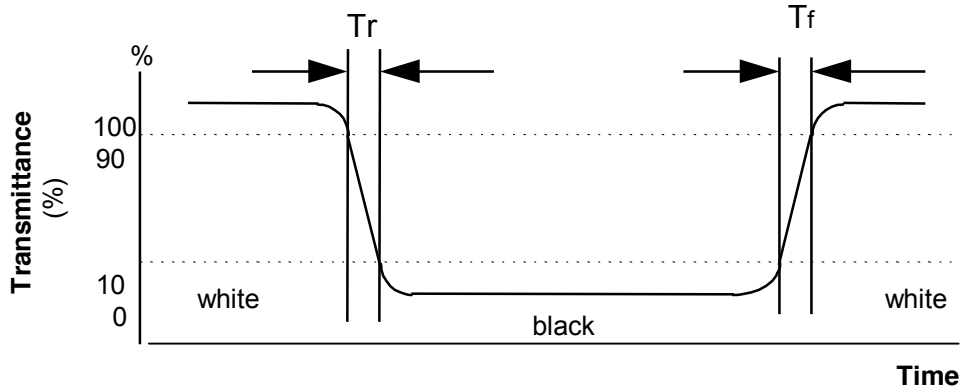

FIG. 4. The definition of Viewing Angle
| | Viewing Angle | $\Phi = 180^\circ$ | CR>10 | | - | 43 | - | Degree | FIG.4 |
4. Viewing angle is the angle at which the contrast ratio is greater than 10. The angles are determined for the horizontal or x axis and the vertical or y axis with respect to the z axis which is normal to the LCD surface. For more information see FIG 4.